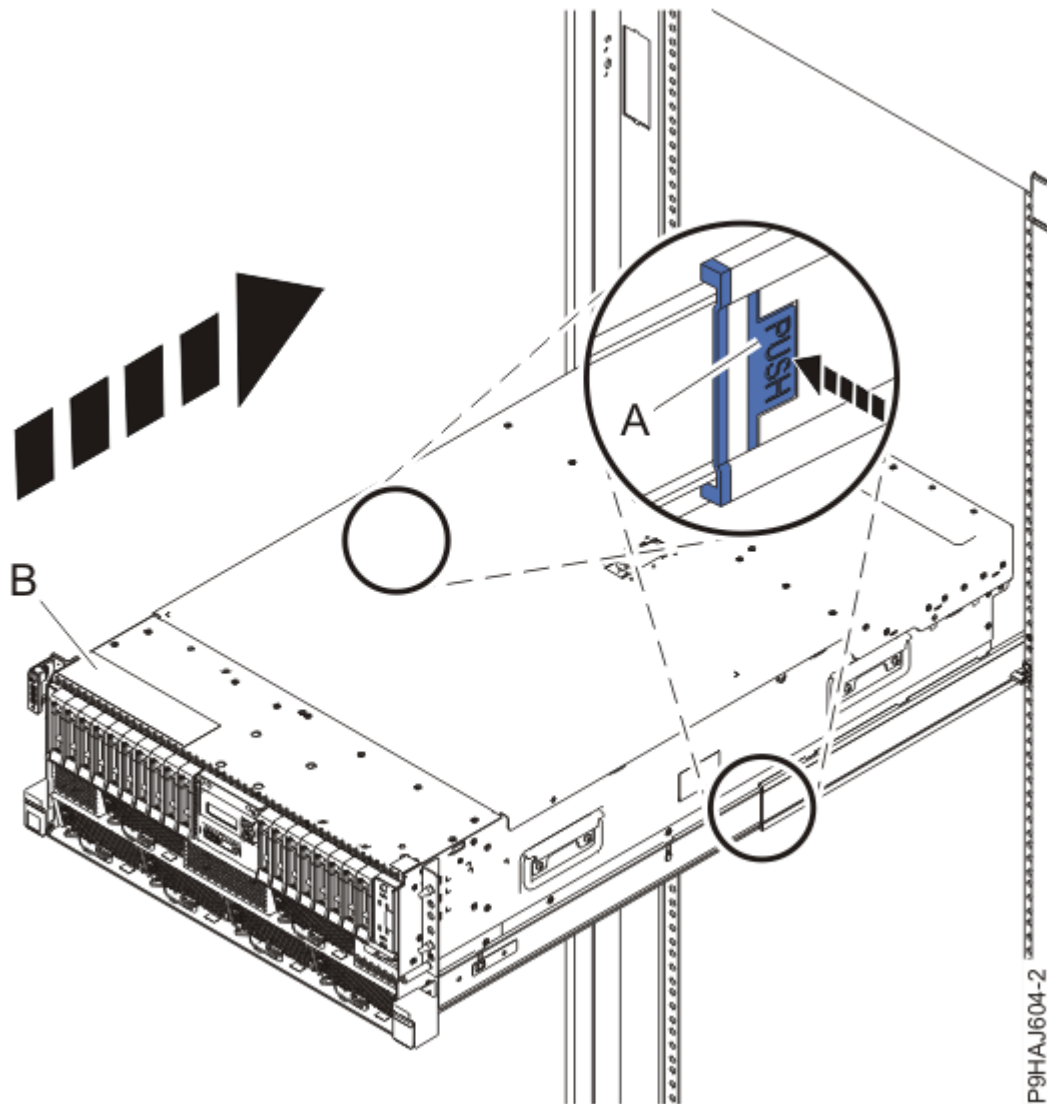

Figure 40. Placing the system into the operating position
3. For a rack-mounted system, unlock the blue rail safety latches (**A**) as shown in Figure 40 on page 56 by pushing them inward.